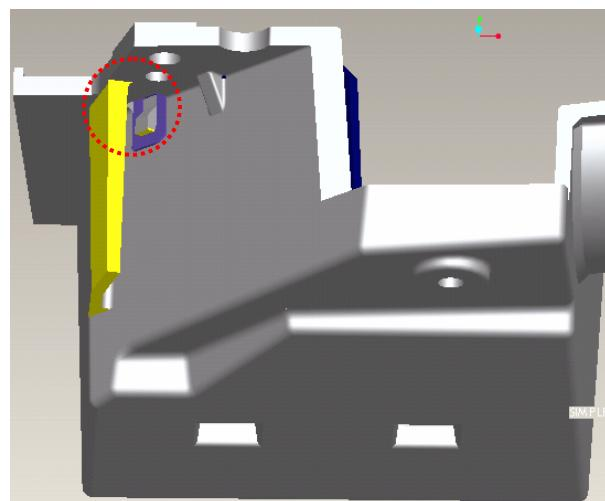

Fig. 6-2
- II. Insert the "CLIP of FM1" into the hole on the HSG ILL and make sure " CLIP of FM" hook on the HSG ILL well (Fig. 6-2)